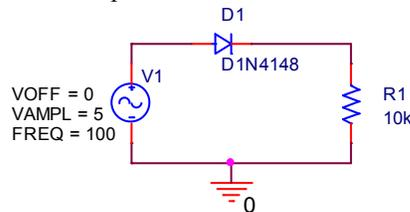

Figure B-5.
- Create the circuit shown in Figure B-5 in PSpice: